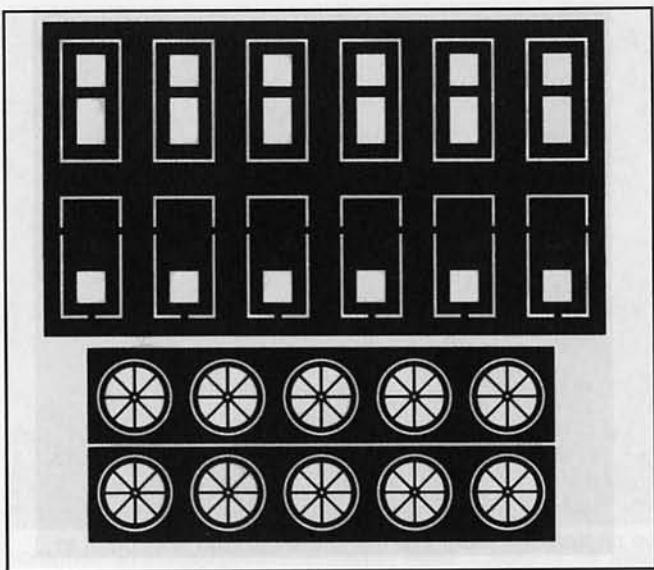

Fig.8.4
The next step is to expose the photosensitive film to the image of the parts you require. This is done by placing a transparency, with the design imprinted on it, against the prepared surface and exposing the assembly to ultraviolet (UV) light. For the sharpest result the side of the transparency with the image on it should be against the emulsion. **Fig.8.4.**